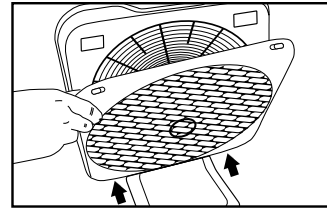

Fig. 6
5. Hold engaged bottom of the grill plate in place and push the top of the grill plate back toward the unit. The release tabs at the top of the grill will click back into place. See Fig. 6